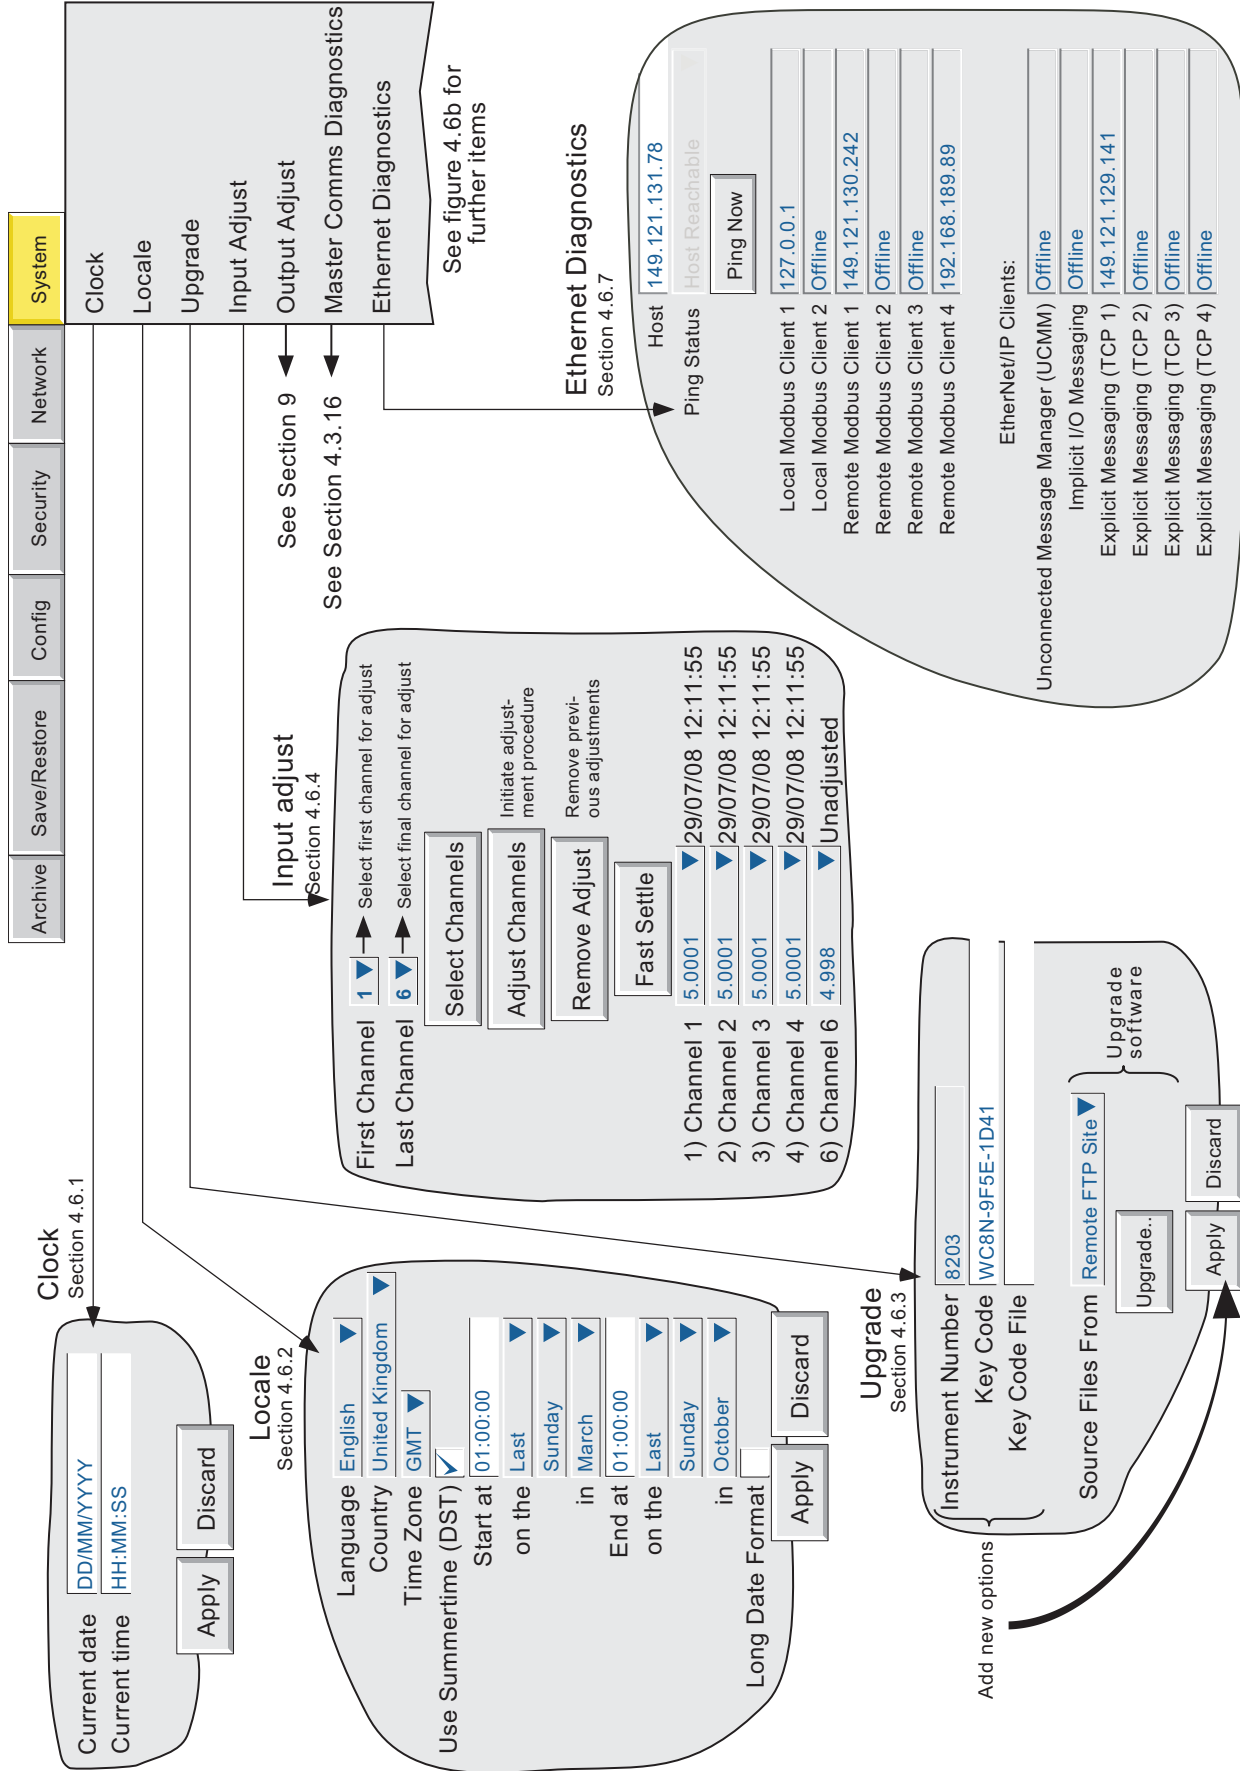

Figure 4.6a System configuration menu layout (sheet 1)
Figures 4.6a and 4.6b above, give an overview of the System Menus.
- Use Summertime (DST)* Select box if daylight saving is to be used, If 'Use Summertime (DST)' is selected, the times and dates for the start and end of summertime can be entered using picklists - see figure 4.6a.